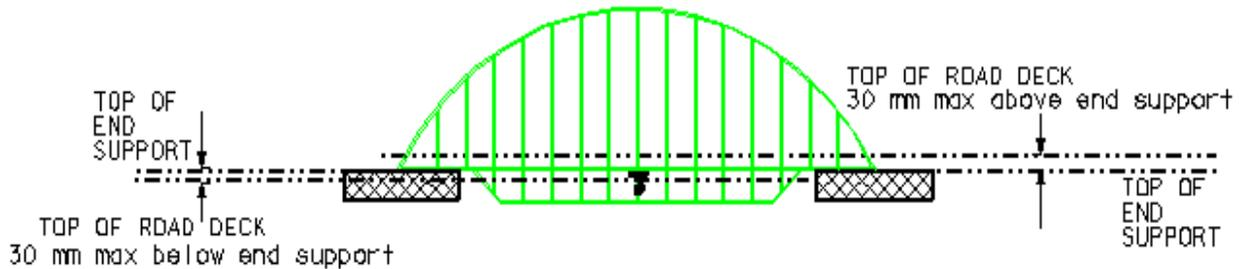

Figure 4: Bridge Deck Vertical Position
- All parts of the unloaded solid road deck must be within 30 mm of a horizontal line drawn between the top surfaces of the end supports (see Figure 4).